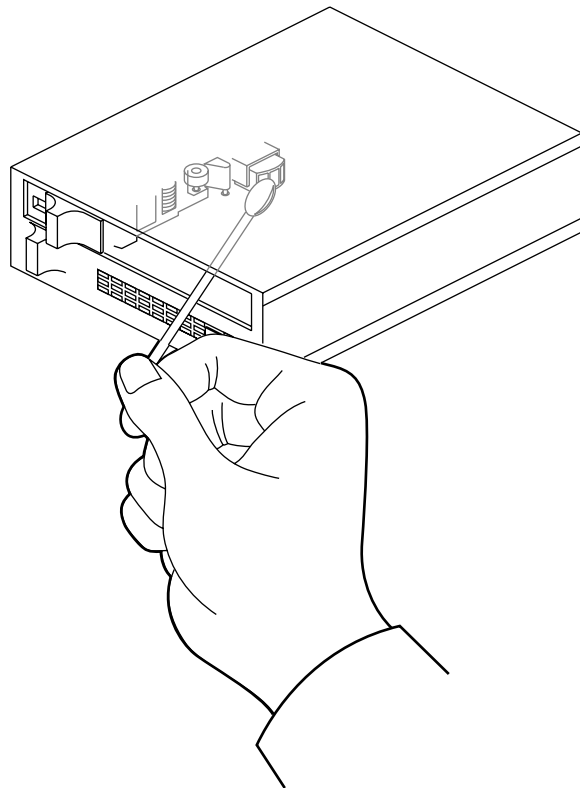

Figure B-3 Tape Head Cleaning
3. Dip a clean, non-fibrous cotton swab in either tape head cleaning fluid or Freon-TF, and wipe the tape head (see Figure B-3).